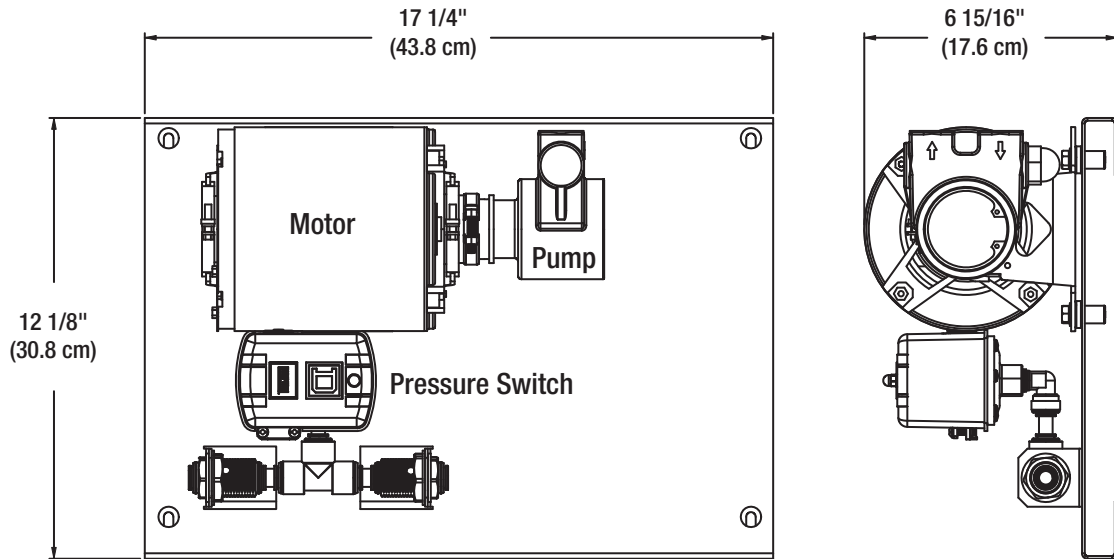

Figure 1
1. If wall mounting, install using the orientation shown in Figure 1, with the pump motor and pressure switch above the tank plumbing connections.
**IMPORTANT NOTE:** Make sure that the bracket is securely mounted to the wall stud or other appropriate structure. Use all four (4) mounting holes.